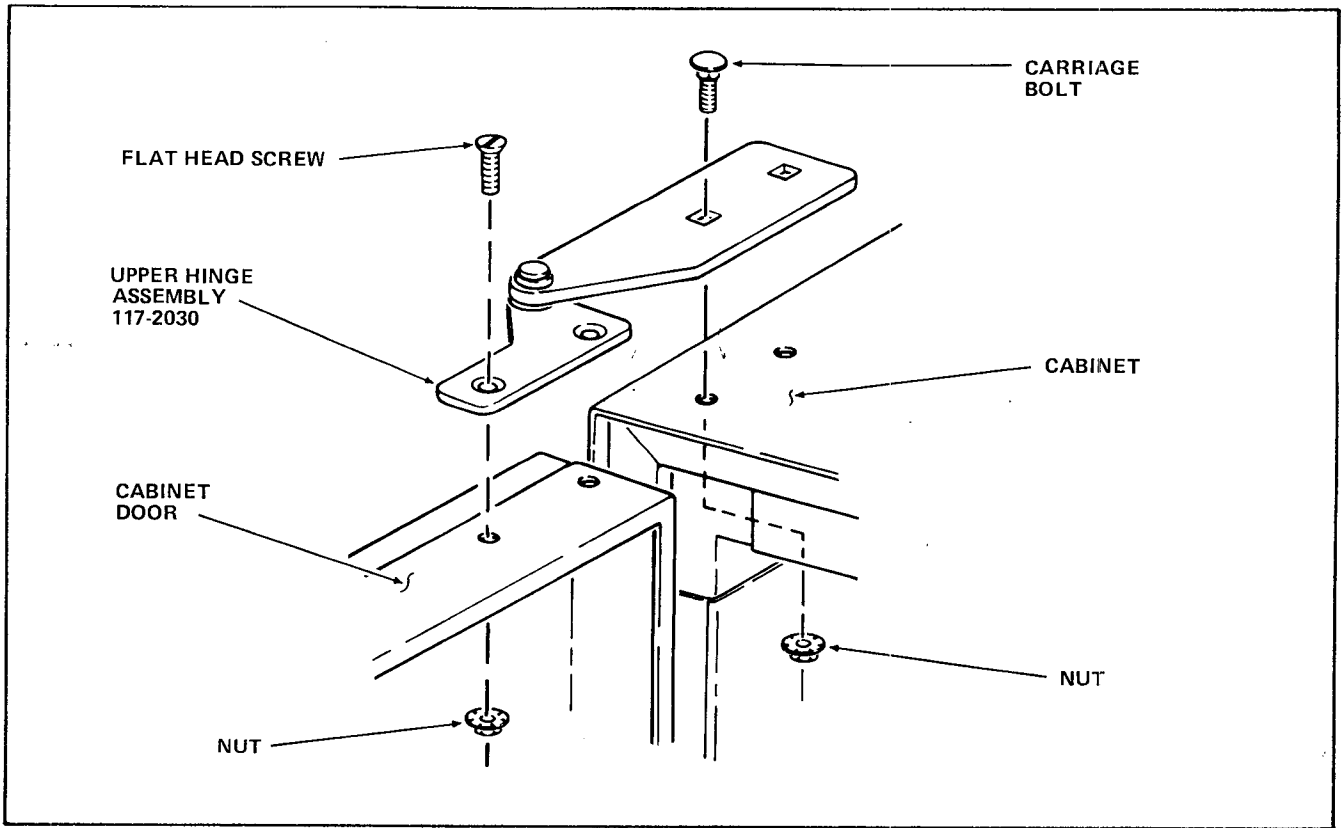

FIGURE 4
5. Attach the replacement Upper Door Hinge Assembly included in the kit, part number 117-2030, to the Cabinet and Cabinet Door with the Carriage Bolts, Screws and Nuts removed in Steps 3 and 4. Do not fully tighten Nuts at this point. See Figure 4.